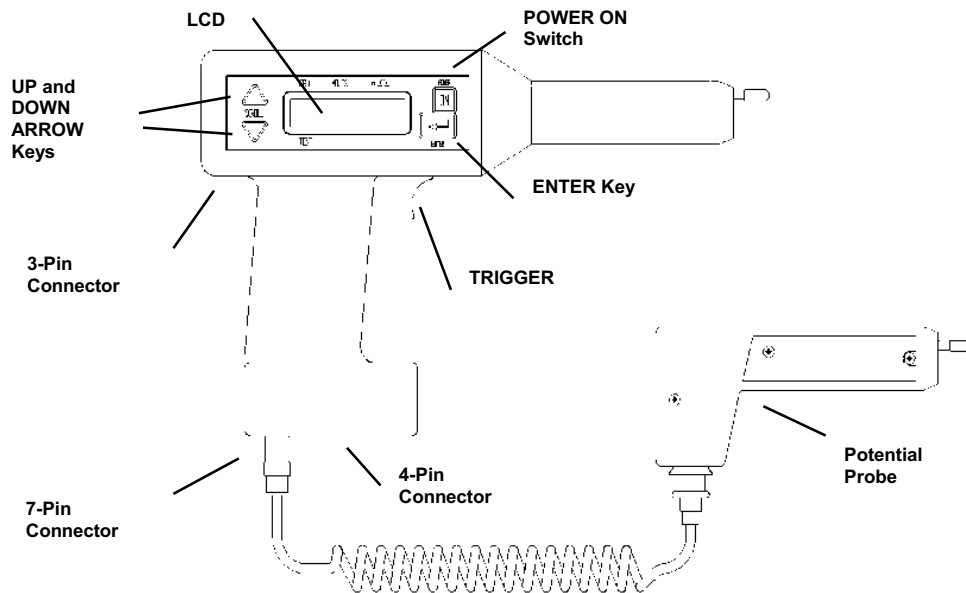

Figure 5-1: Receiver Controls, Connectors and Indicators
- 2. Using the wand adapter cable, insert the wand into the 7-pin connector on the **receiver**. (See Figure 5-1 for the location of the 7-pin connector.)